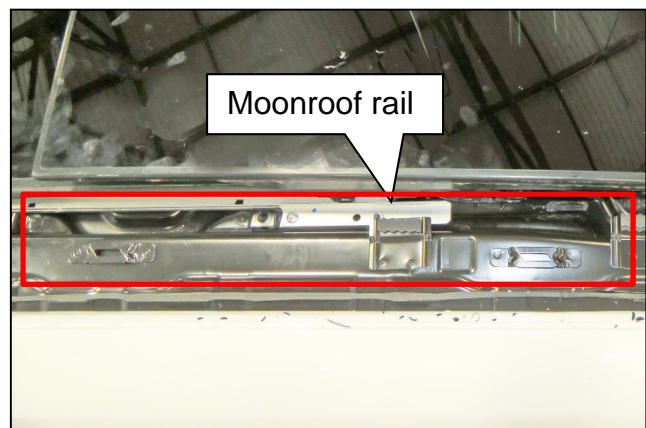

Figure 20
20. Remove any debris / anti-rattle clip material from the moonroof rail area, outlined in red in Figure 20.